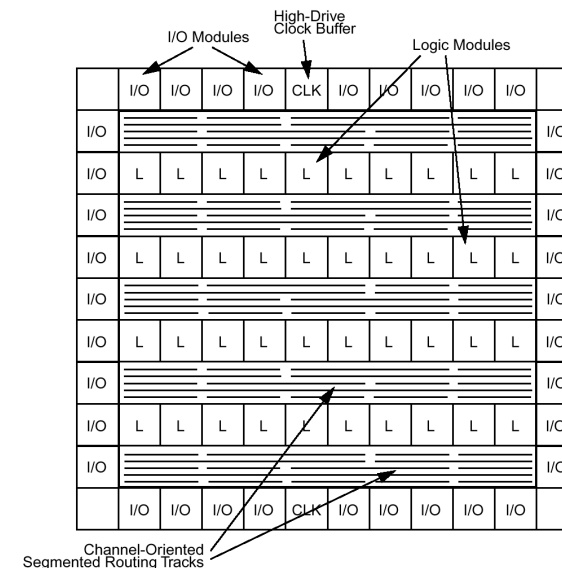

Figure 3.4
- Based on channelled gate array architecture as shown in Figure 3.4.